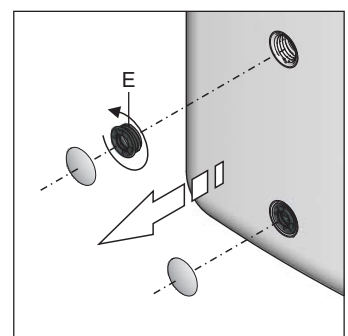

Fig. 6-4 Working steps 2 + 3
3. Remove the cover plate from the handle and unscrew the threaded piece (fig. 6-4, item E) from the storage tank container.